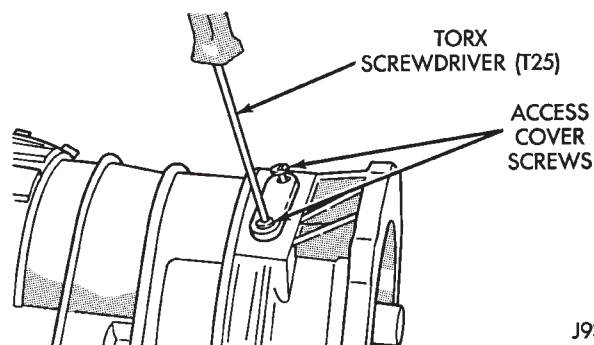

Fig. 305 Locating Ring Access Cover And Gasket Installation
(10) Install locating ring access cover and gasket in overdrive unit case (Fig. 305).